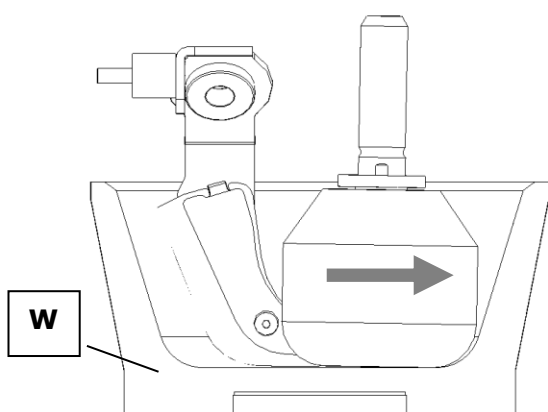

Fig.6
- Then move the pestle backwards again until resistance is felt. To do this turn the pestle knob **L** to the right. **Fig.6**
- In **Fig.6** the optimum setting has been reached since the lower rounded surface of the pestle is now running in the lower rounding of the mortar.